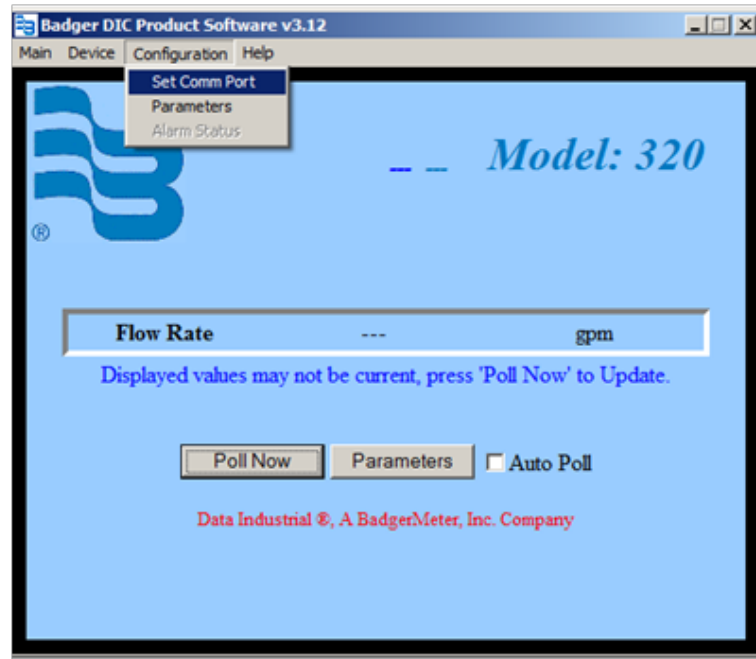

Figure 10: Select "Set Comm Port"
- Select the "Set Comm Port" menu option, from the "Configuration" menu, per Figure 10.
- Select the appropriate device from the "Device" menu in Figure 10.
- Set the appropriate parameters from the "Configuration" menu in Figure 10 or click the **Parameters** button.